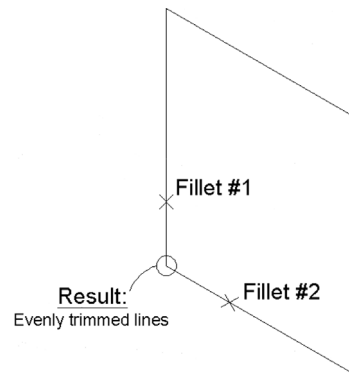

FIGURE 20.5 Isometric drawing, Step 6.
Step 6. Now, use the fillet command to fillet the line between Clicks 4 and 5 and Clicks 1 and 2. Fig. 20.5 shows the result.